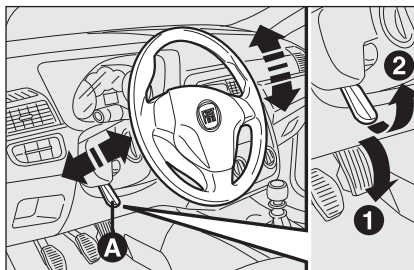

fig. 27
- ☐ release lever **A**-fig. 27 by pushing it forwards (position 1);